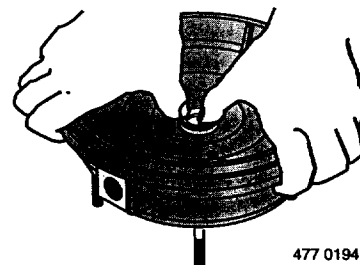

Figure 11
3. Press seat into cavity firmly and squarely with finger pressure. (Make sure polished face of seal is facing towards inside of pump). If seat will not locate properly, place a cardboard washer over polished face of seat and use piece of 3/4" standard pipe for pressing purposes (see Figure 11).
9. Screw impeller on shaft until impeller hub hits shaft shoulder. This will automatically locate seal in place and move the sealing washer face up against floating seat face (see Figure 11).